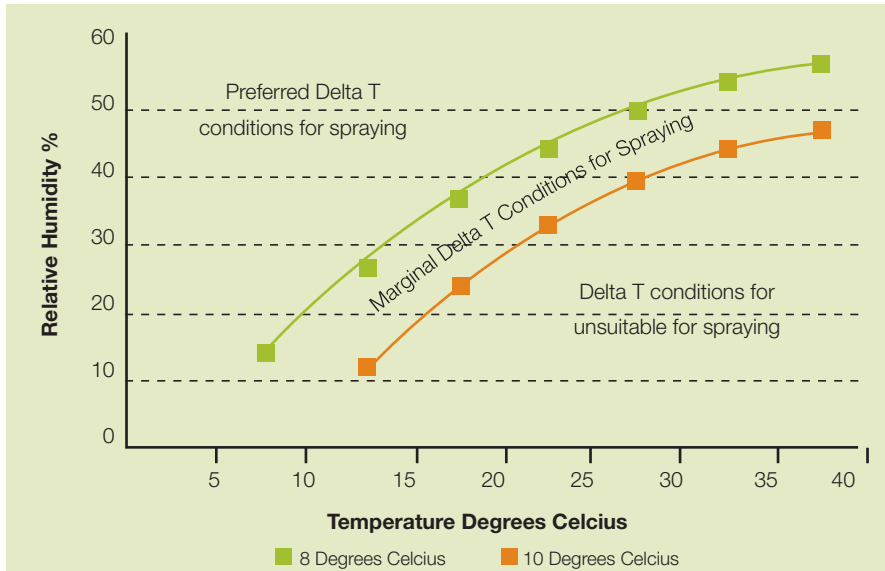

Figure 5: Suitable and unsuitable Delta T conditions
- Aim to spray when Delta T is between 2 and 8 and not greater than 10 (Figure 5)